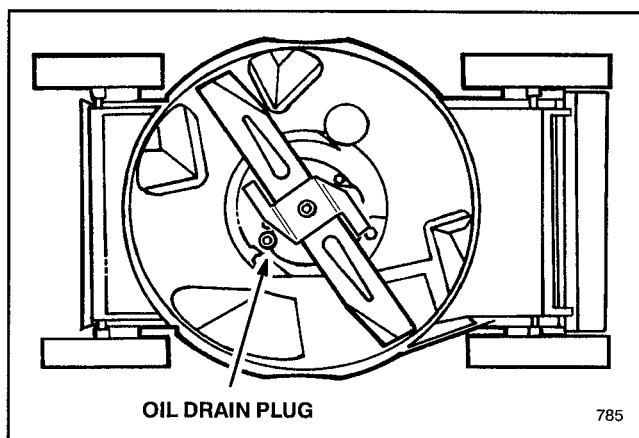

Figure 13
3. Tip mower on its right side (Fig. 13). Place a drain pan under mower.
4. Remove drain plug (Fig. 13) from underside of mower using a $\frac{3}{8}$ " square drive.